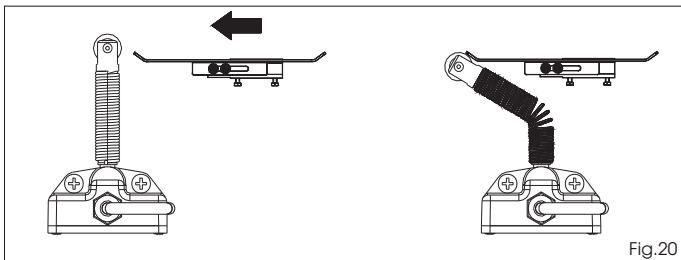

Fig. 20
- a) The plate must activate the limit-switch on the profiled part as shown in figure 20.